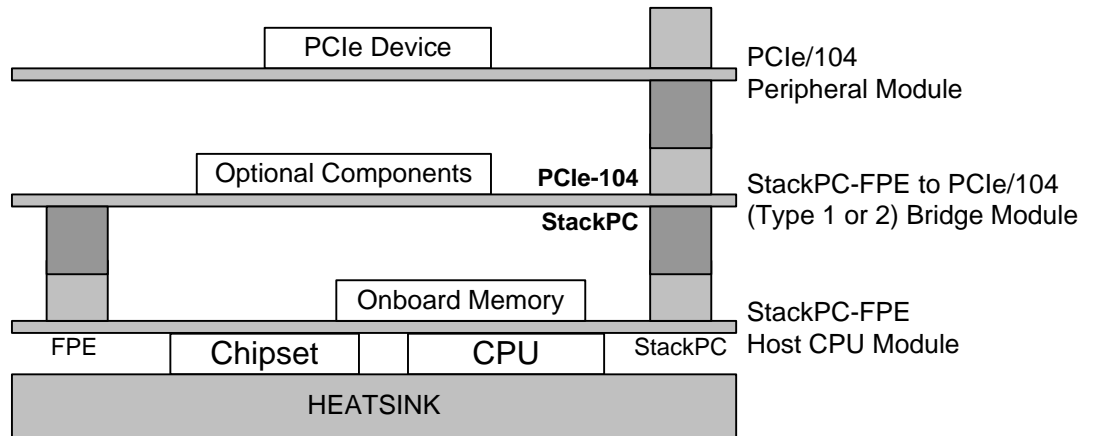

Figure 8-27: Stack using «StackPC-FPE to PCIe/104» bridge module
2. To use StackPC-FPE Host in combination with StackPC-FPE to PCIe/104 Type 1 bridge (Figure 8-27).